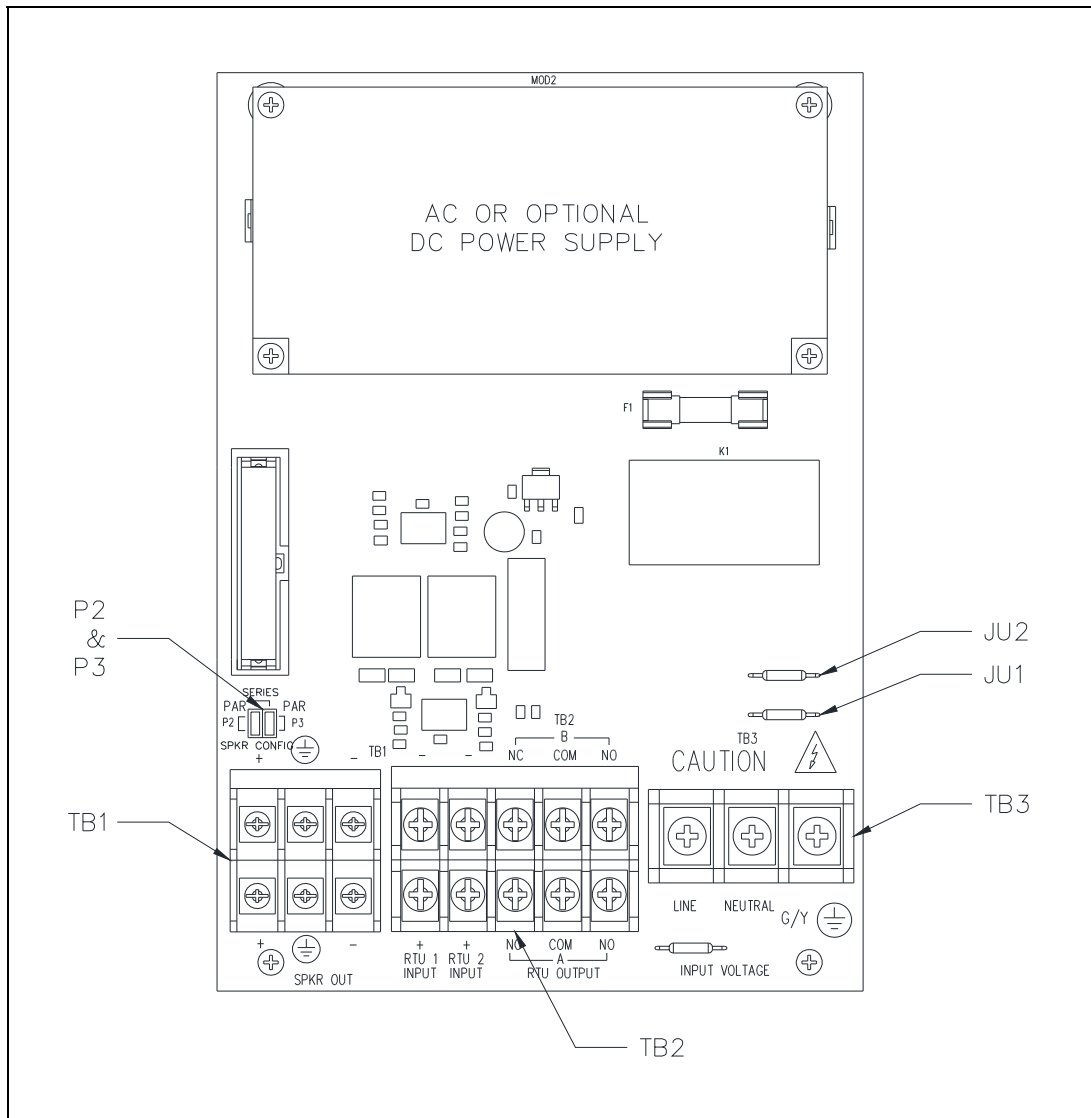
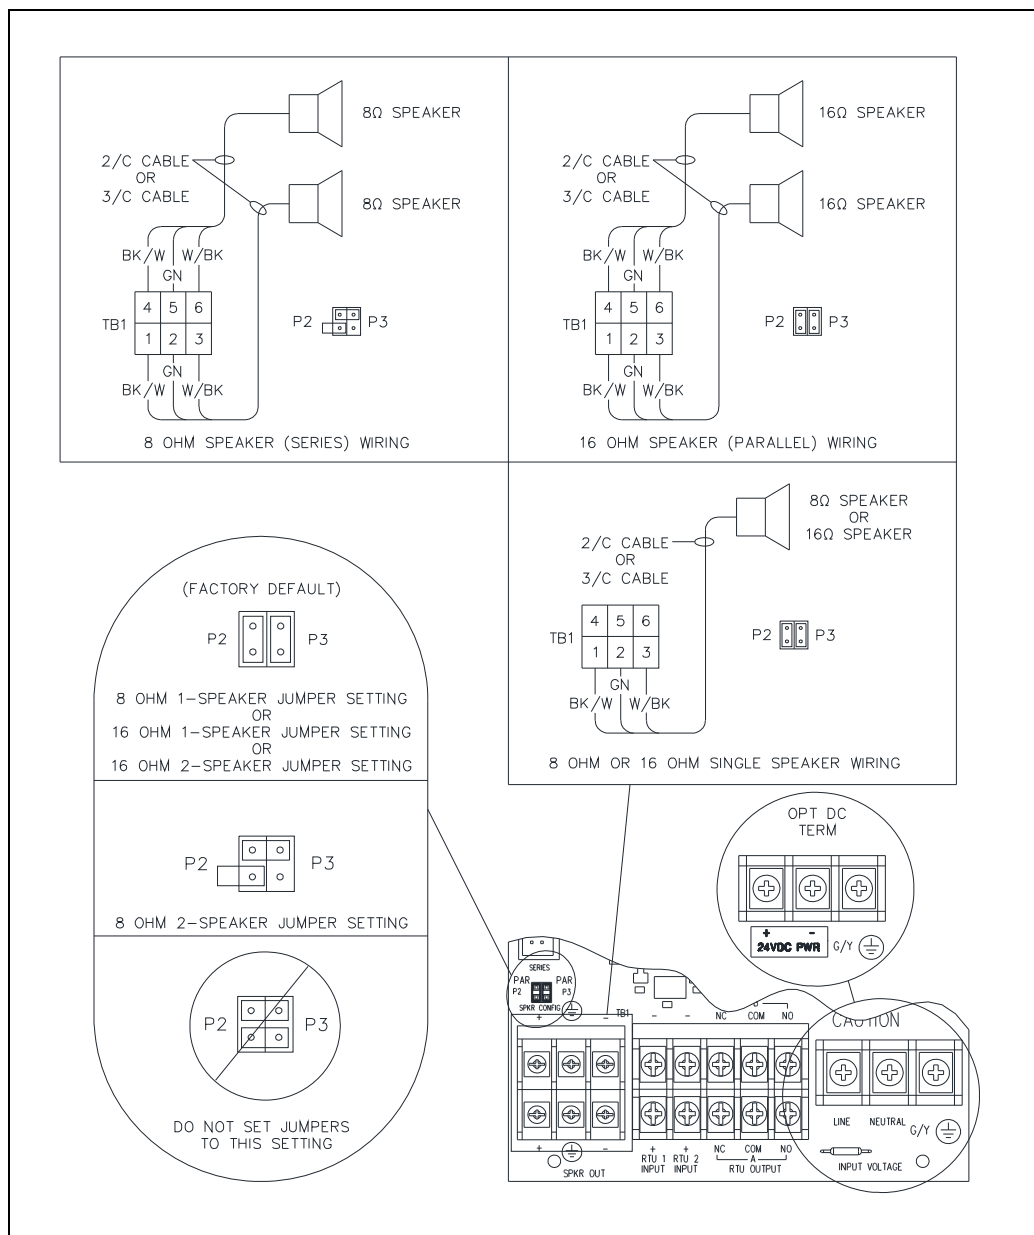
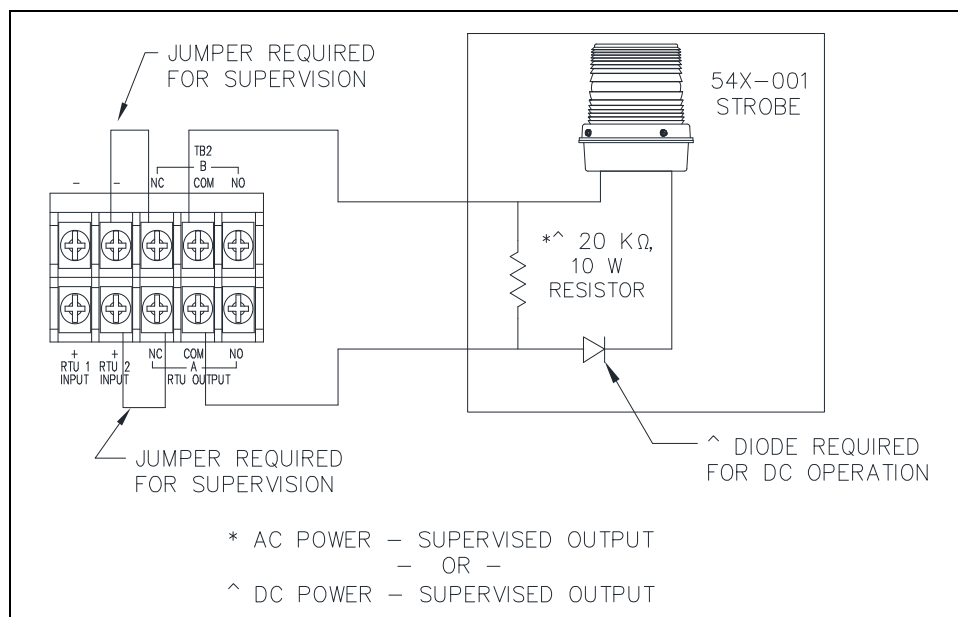

Figure 6. SP2 Standard Termination PCBA
Figure 7. 8/16-ohm Speaker Impedance Configuration and AC/DC Termination at TB3
Figure 9. Supervised Output Wiring—TB2
5. Configure the speaker jumpers; P2 and P3, for the appropriate impedance for use with 8-ohm or 16-ohm speakers (see Figure 6 and Figure 7).
The standard termination PCBA contains two auxiliary RTU inputs. Terminate the inputs at terminal block TB2 (see Figure 6).
Two form C contacts are provided to power a beacon (see Figure 9). Terminate the output at terminal block TB2 (see Figure 6). Remove jumpers JU1 and JU2 to configure the output as a dry contact.
5. Install a 20-kilohm 10-watt resistor across the terminals of the beacon (see Figure 9).
6. Install jumpers at terminal block TB2 (see Figure 9) to enable cable monitoring.
The ac or optional dc power supply is on the termination PCBA. Connect the local power source to terminal block TB3 (see Figure 6 and Figure 7):